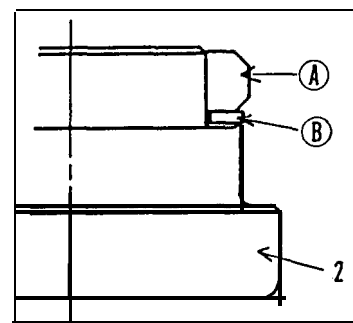

Fig. 19
- 6) Remove end cover (2), lubricate seal and its groove with oil or grease. Then, fit the ring (B) and seal (A) to the end cover in this order. (See Fig. 19)